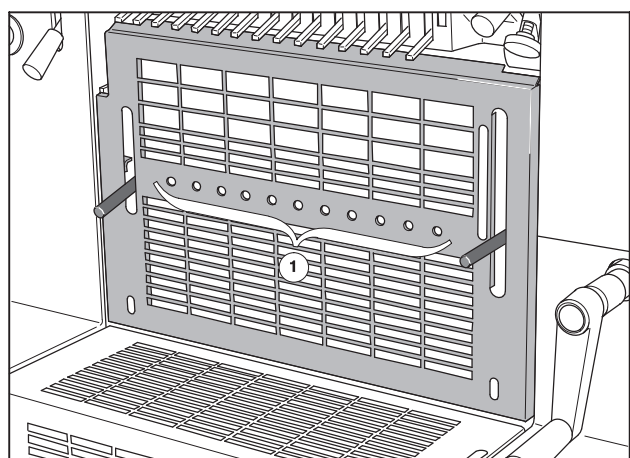

Fig. 19 Adjusting the ink zones
The ink zones of the numbering inking unit are accessible through the openings (Fig. 19/1) in the guard even with the inking unit guard closed and can be adjusted in production.
1. Adjust the zone screws (Fig. 19/1) using the 4 mm hex head screwdriver corresponding to the positions of the numbering boxes or block holder.